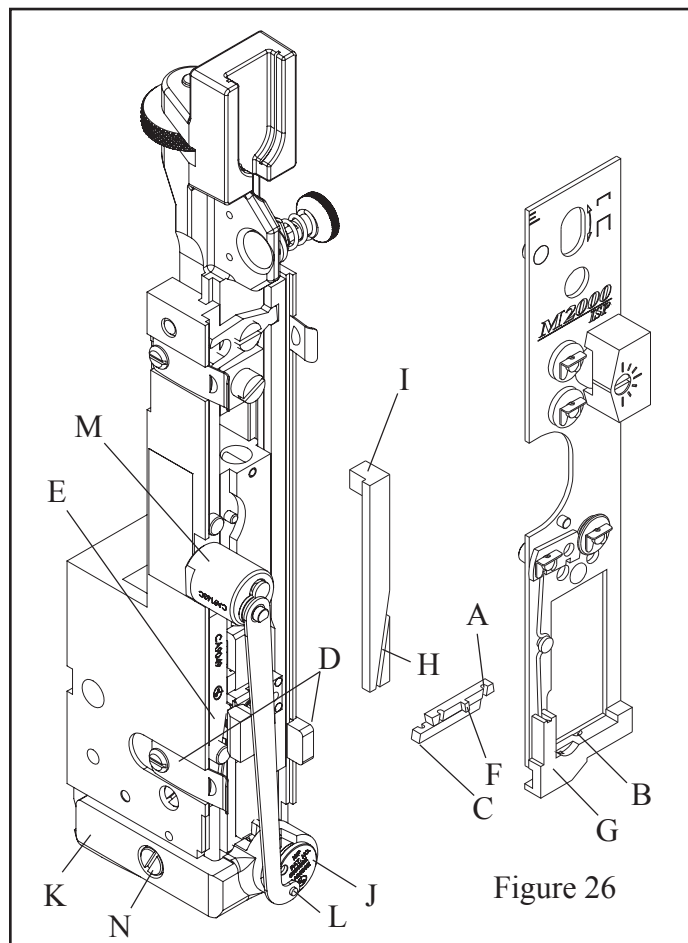

Figure 26
I. Wire Cutters: (Figure 26)
3. Lift end of spring (Index L, Figure 26) out of rotator.
5. Slip the rotator operating cam (Index M, Figure 26) forward and off the stud.
L. Rotator (Figure 26)
The rotator holder and rotator operating spring are responsible for alignment of the wire beneath the bender bar grooves. The position of the rotator holder determines how far the rotator is pushed forward under the bender bar by the rotator operating spring (Index L, Figure 26). A weak spring will not push the rotator in far enough and with this improper alignment the bender bar will knock the wire from the rotator or will shear the wire into pieces. To secure proper alignment, check the position of the rotator holder and the tension applied by the rotator operating spring. Make any necessary adjustment of the rotator holder or replace the rotator operating spring if weak.
3. Loosen the rotator holder screw (Index N, Figure 26).
the wire points straight down as in figure 26. Improper straightening of the wire can also cause the stitch legs to buckle or turn out because they strike the clincher improperly. Excessive tension on the wire straightener prevents the grip (Index D) from feeding the wire smoothly. This causes variation in leg length.